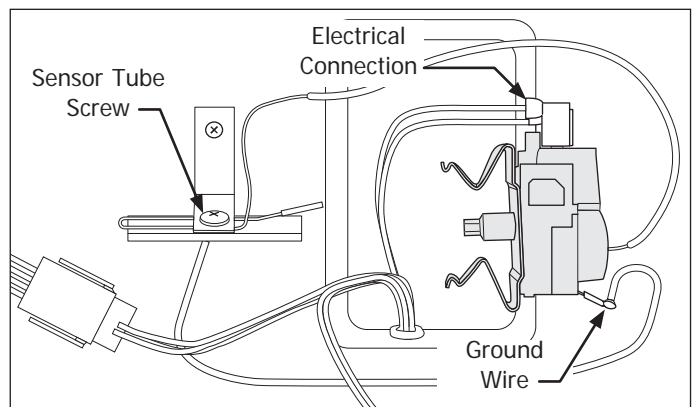

Figure 5-45. Thermostat Control Removal
2. Extract the screw securing the sensor tube to the back wall of the cabinet interior. (See Figure 5-45)